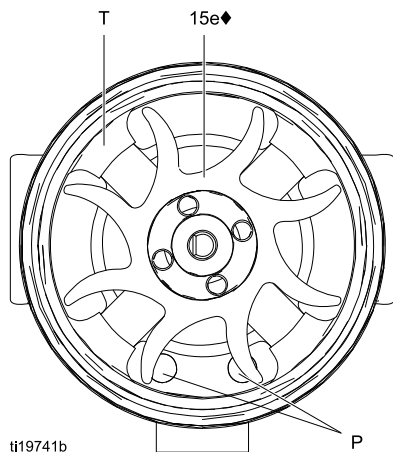
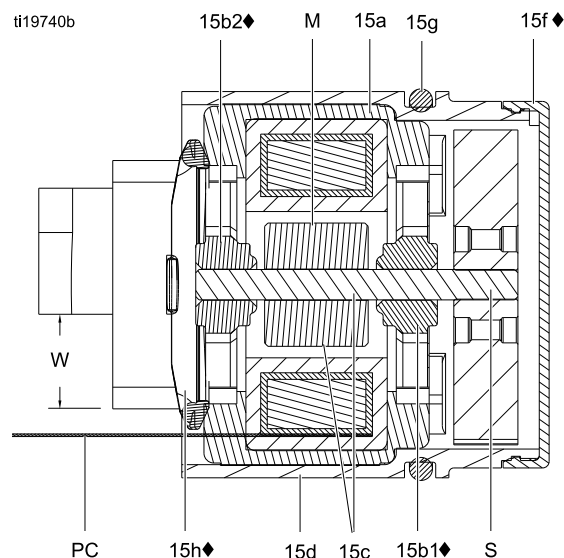

Figure 34 Fan Orientation
Figure 35 Alternator Cross-Section
7. Hold the coil assembly (15a) on a workbench with the fan end facing up. Using a wide blade screwdriver, pry the fan (15e) off the shaft (S).
10. Install the new bottom bearing (15b1◆) on the long end of the shaft (S). The flatter side of the bearing must face away from the magnet (M). Install in the coil (15a) so the bearing blades are flush with the surface of the coil.
12. Hold the coil assembly (15a) on a workbench with the fan end facing up. Press the fan (15e♦) onto the long end of the shaft (S). The fan blades must be oriented as shown.
13. Carefully press the coil assembly (15a) into the front of the housing (15d♦) while aligning the pin on the coil with the slot in the housing. The 3-wire connector (PC) must be positioned below the wider notch (W) of the housing tabs, as shown in Fig. 35. Be sure the coil alignment pins (P) are positioned as shown in Fig. 34.
14. Rotate the fan (15e) so its blades clear the four bearing tabs (T) at the back of the housing.